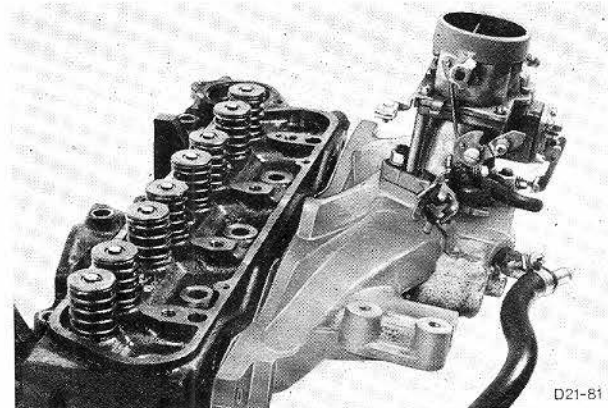

Fig. 80. Inlet manifold with carburettor.
8. Replace inlet manifold complete with carburettor, Fig. 80, and exhaust manifold, using new gaskets.